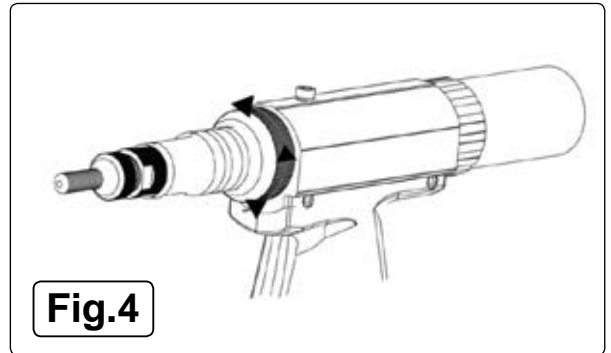

Fig.4
- 5.1.3. Unscrew knurled cover (anticlockwise) and nose pedestal, fig.4.